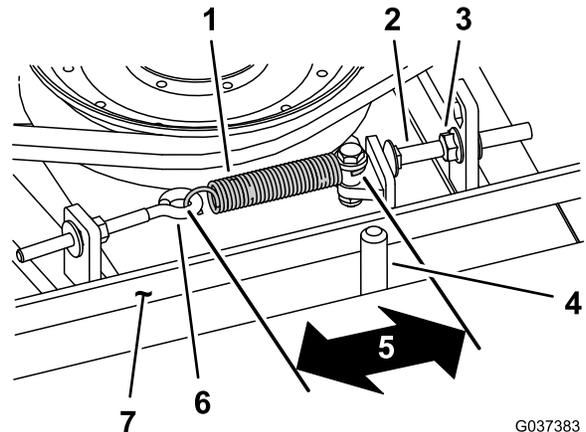

Figure 77
When properly tensioned, the inside measurement of the extension spring (hook to hook) should be approximately 8.3 to 9.5 cm (3-1/4 to 3-3/4 inches). Once the correct spring tension is attained, adjust the stop bolt (carriage bolt) until there is approximately 2 to 5 mm (0.065 to 0.185 inch) clearance between the head of the bolt and the idler arm (Figure 77).
**Note:** Ensure that the belt is positioned on the spring side of the belt guide (Figure 77).
2. Loosen the eye bolt allowing the removal of the extension spring (Figure 77).
- Loosen the flange nut securing the stop bolt to the mounting tab and move the idler pulley away from the belt to release the belt tension (Figure 77).
- Connect the extension spring (Figure 77) to the eye bolt and tension the belt as follows: